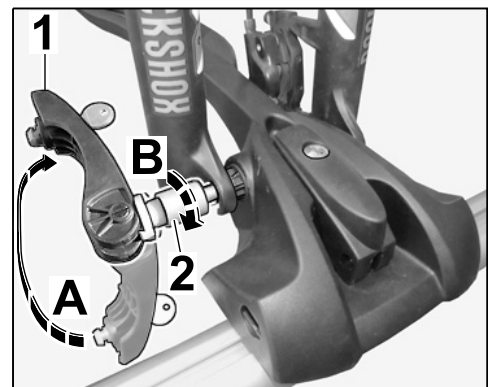

*Figure 31*
- 7.3.1 Carefully lift the bicycle/racing bike onto the racing bike carrier with the help of another person. Position the rear wheel on the wheel mount and guide the front fork into the front wheel fork mounting (⇒ *Figure 31*).